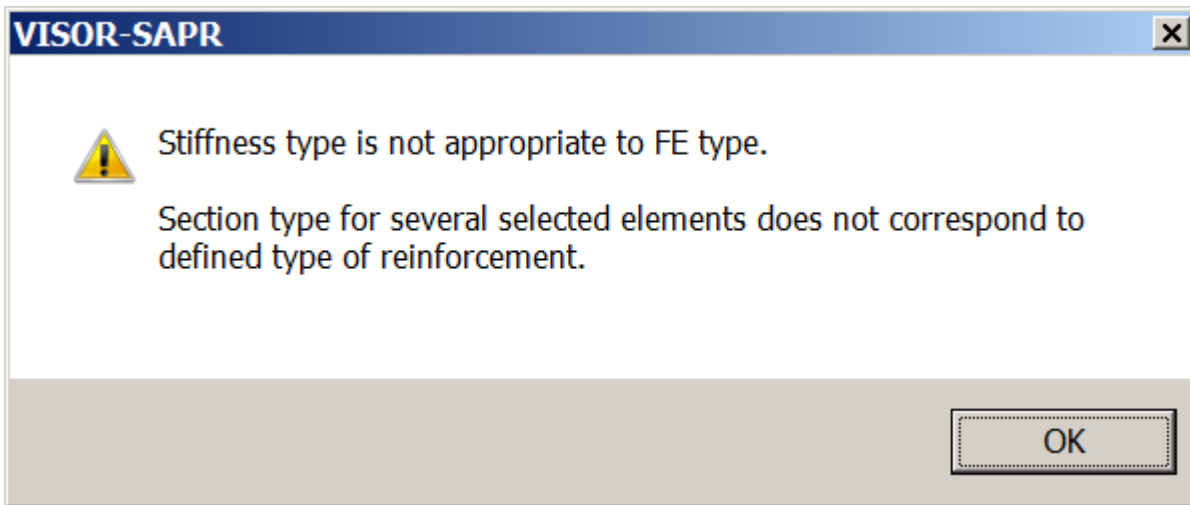

Figure 21.15 **Warning** dialog box
- ⇒ The **Warning** box is displayed (see Fig.21.15). Click **OK**.